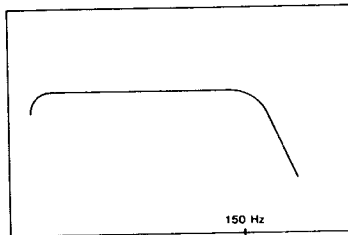

Fig. 2.11
- (l) Adjust 'cut' and 'Q' controls alternately until a smooth characteristic has been achieved (Fig. 2.11).